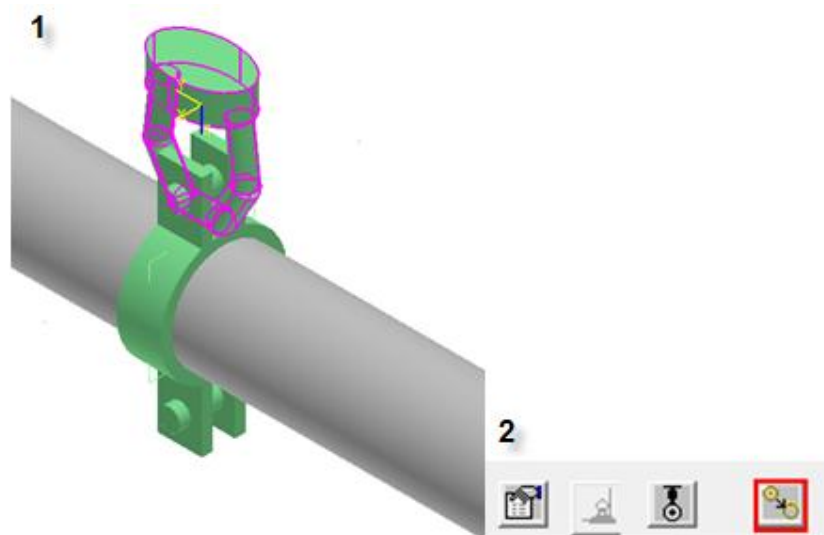

Figure 16: (1) Eye Nut Local Coordinate System. (2) Toggle Port Option icon
- Click the **Toggle Port** option on the ribbon to choose the port to connect the pipe clamp as shown in Figure 16 (2). Position relative to the appropriate key point on the pipe clamp.